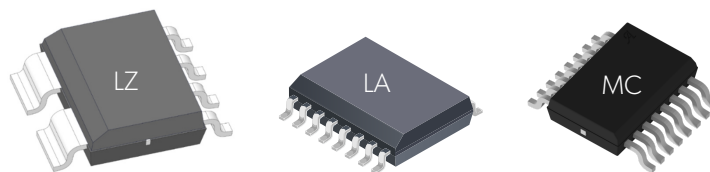

Figure 2: Allegro packages with reinforced insulation
**Reinforced insulation:** Reinforced insulation is a single insulation system that has been tested to provide the same level of protection as double insulation. Reinforced insulation is used for many components where it is not practical to create two layers of insulation with two separate components. The LZ, MA, and MC are examples of Allegro packages with reinforced insulation (refer to Figure 2). See the Allegro website for a more extensive list of Allegro packages and devices.